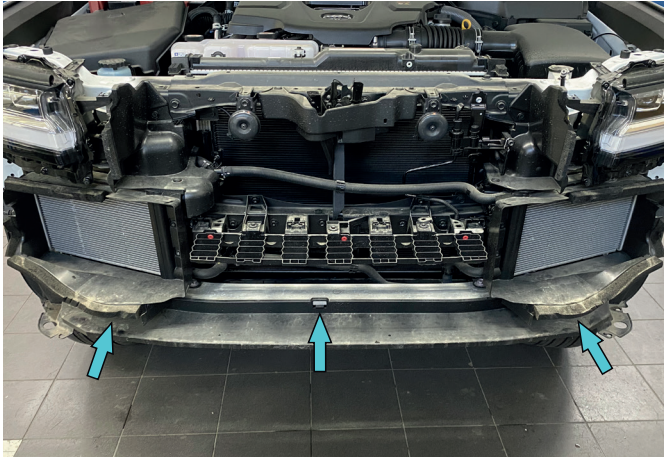

Fig.13
13. Remove plastic crush absorber (fig.13).